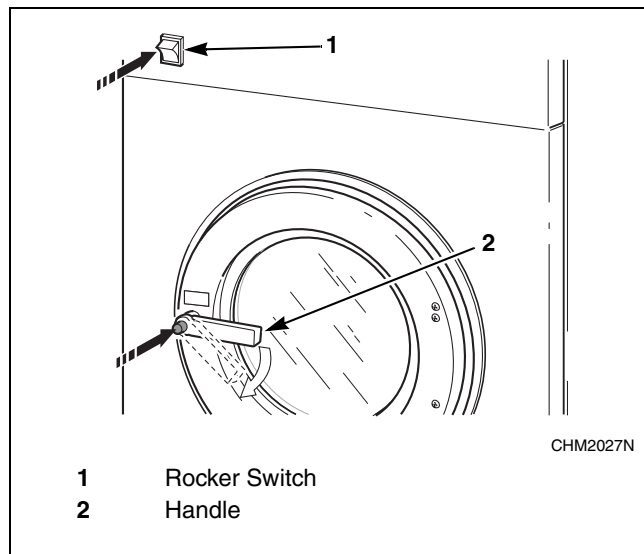

Figure 10
2. With left hand, push and hold white rocker switch. Refer to *Figure 10*.
3. Push button and turn handle clockwise to open door. Refer to *Figure 10*.